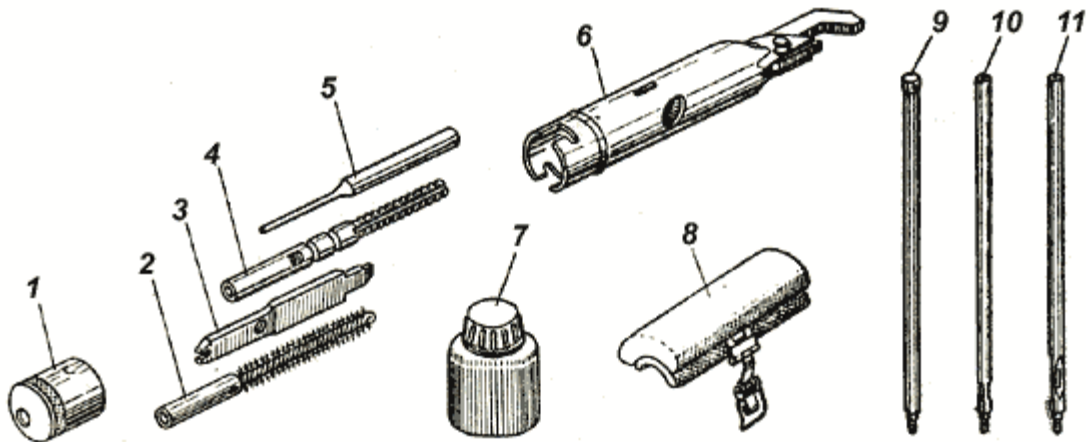

Fig. 10. Accessories to rifle:
1.6.1. The sniper rifle accessories (Fig. 10) are used in disassembling, cleaning and lubricating the sniper rifle and are carried in the bag intended for the sight and magazines.